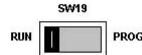

Figure A.9: Nios II Development Board JTAG Switch Configuration
14. On the Nios II development board, make sure the **RUN/PROG switch** (SW19), beside the LCD panel, is in the **RUN** position. Figure A.9 illustrates the correct configuration of the JTAG switches. Also make sure that SW[16] is "up" (the myESystem reset switch).